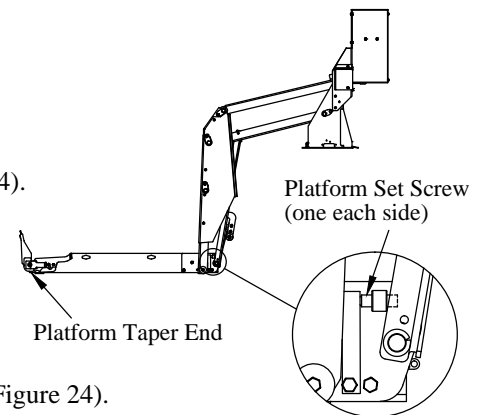

Figure 24: Platform.
3. **Adjust** the platform set screws until the platform taper end rests on the ground (Figure 24).
6. **Adjust** each bridge close wheel so that it is tight against the bottom of the bridge plate (Figure 24).